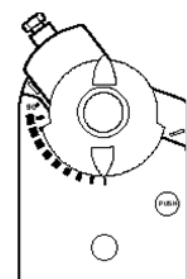

Figure 14
5. Figure 14. Place the position indicator to the 0 position on the outside scale.